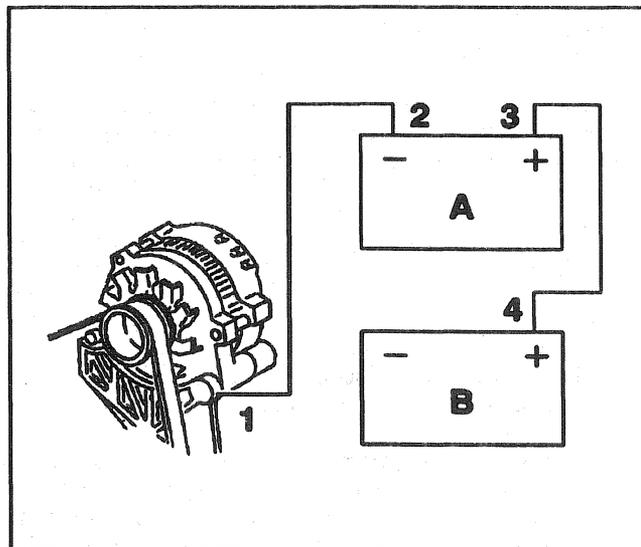

Figure 10—Removing Jumper Cables
8. Reverse Steps 4, 5, and 6 exactly when removing the jumper cables. The negative cable must be disconnected from the engine that was jump started first (Figure 10).